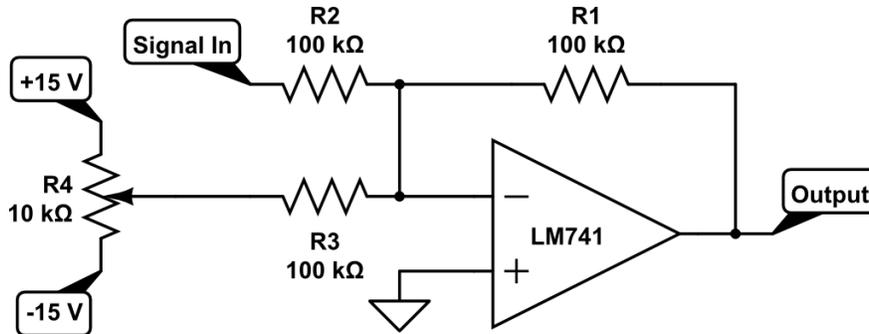

Figure 5: Summing Amplifier
- Construct the circuit shown in figure 5 with the input on channel 1 and the output on channel 2. Use a 2V_{pp} 1 kHz sine wave as the input signal. (Don't forget the ± 15 volt rails!)
- **Construct just the OA4 portion of the circuit** and test that Verror behaves as expected by connecting the Set Point to 5 volts and V3 to the output of a 10k potentiometer wired to provide a variable voltage signal as in figure 5. Connect channel 1 of the scope to V3 and channel two to Verror. Use the pot to vary the voltage both below and above 5 volts and describe the result.